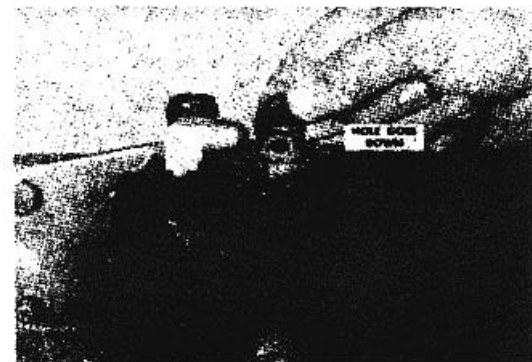

Figure 4-57. Filter screen assembly.
5. Assemble the filter screen assembly into the housing, the hole in the bottom retainer goes down. Fig. 4-57.